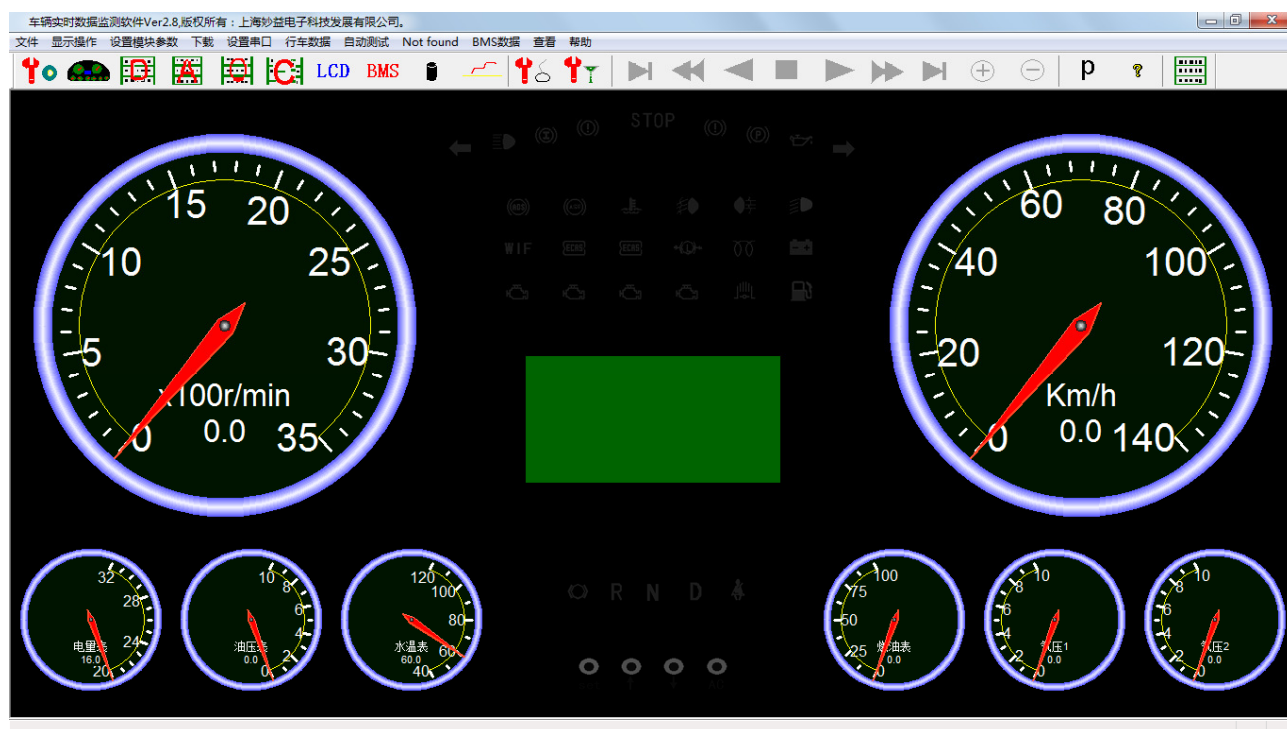

图 9-2-2 参数设置主窗口/Fig.9-2-2 Main Window
第二步，打开软件 mewyeah.exe, 应用界面如图 9-2-2 所示。
Step 2, Launch ,Mewyeah.exe, the window of this application is shown in Fig.9-2-2.